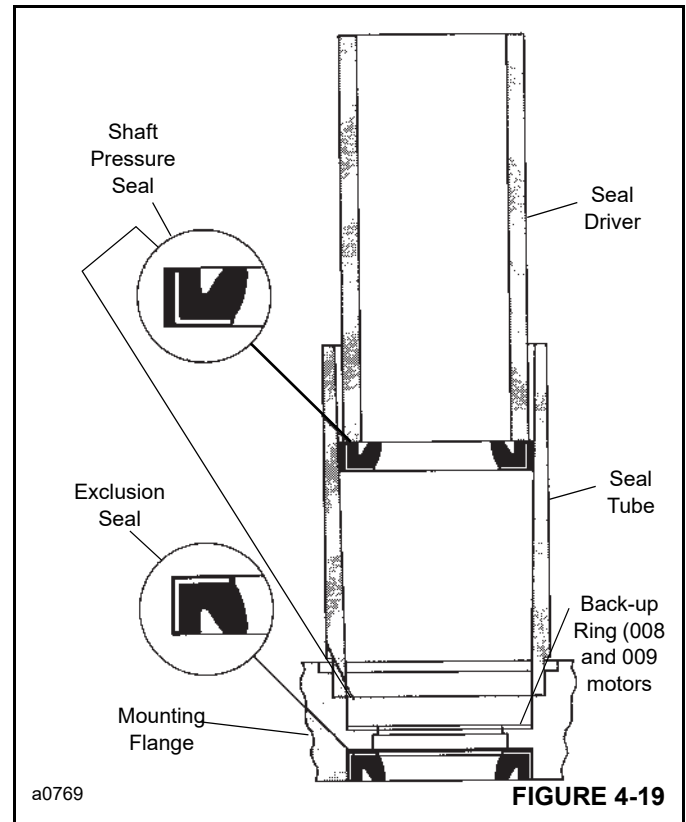

FIGURE 4-19
4. Install exclusion seal (2) Figure 4-12 in flange (3) with the lips of the seal facing out Figure 4-19. Carefully press the exclusion seal in place.
5. Visually check seal seats in the mounting flange for scratches or other marks that might damage the seals (5). Check for cracks in flange (3) that could cause leakage.
6. Lubricate inside diameter of seal tube and outside diameter of shaft pressure seal with light film of clean petroleum jelly. Align small inside diameter end of seal tube with seal seat in mounting flange (3). Install back-up ring (4) and pressure seal (5) in tube with lips of seal face up Figure 4-19. Insert seal driver in tube and firmly push seal seat with a rotating action.